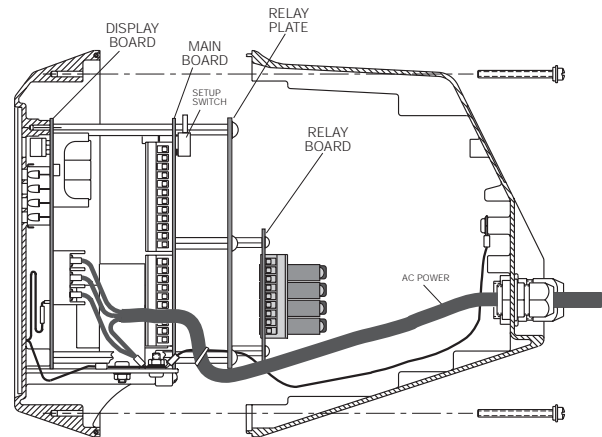

Figure 2. Installed 810 DT 4-Channel Relay Board
- On the desktop (DT) models, the relay rack is mounted on a pre-drilled plate which is installed behind the CPU board using the supplied standoffs (see Figure 2).